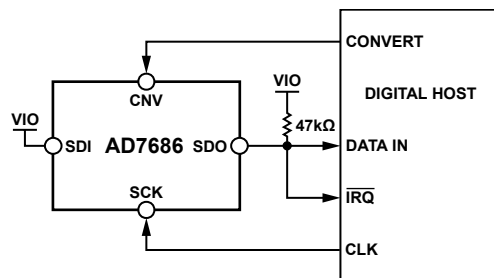
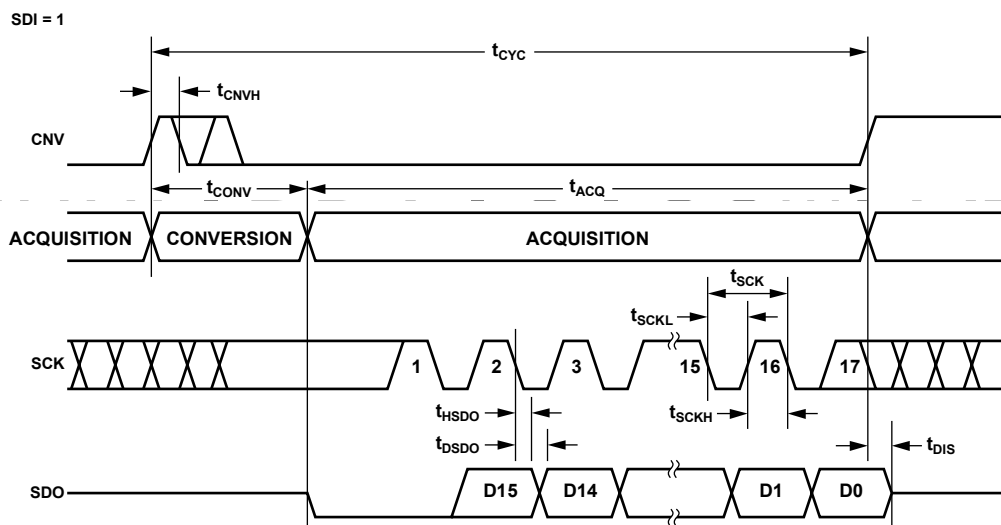
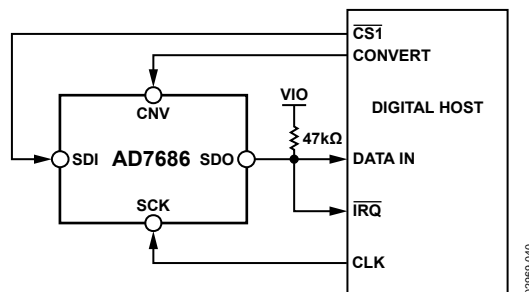
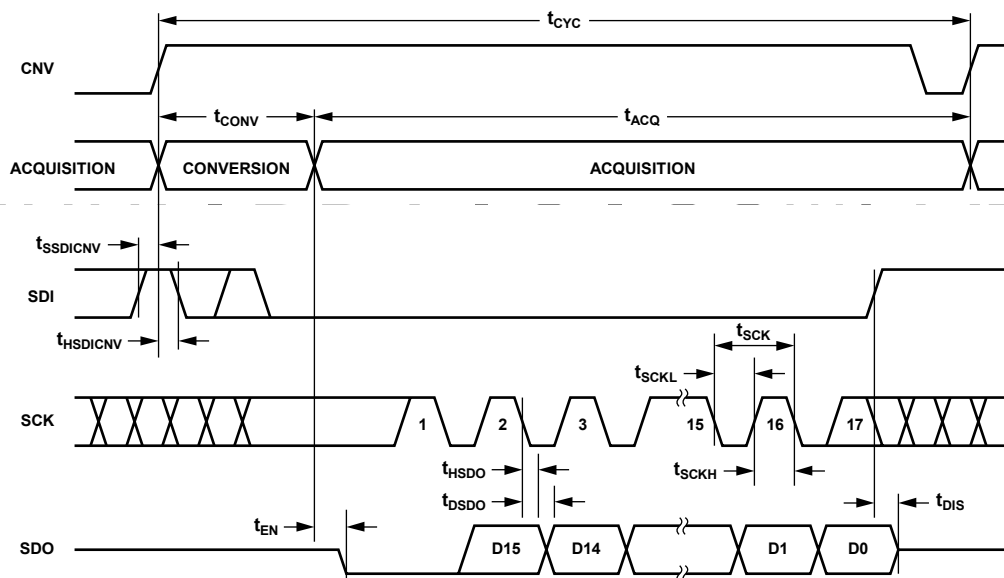

Figure 35. $\overline{\text{CS}}$ Mode 3-Wire with Busy Indicator Connection Diagram (SDI High)
Figure 36. $\overline{\text{CS}}$ Mode 3-Wire with Busy Indicator Serial Interface Timing (SDI High)
Figure 39. \overline{CS} Mode 4-Wire with Busy Indicator Connection Diagram
Figure 40. \overline{CS} Mode 4-Wire with Busy Indicator Serial Interface Timing
- In \overline{CS} mode, if CNV or SDI is low when the ADC conversion ends (see Figure 36 and Figure 40).
This mode is generally used when a single AD7686 is connected to an SPI-compatible digital host having an interrupt input. The connection diagram is shown in Figure 35, and the corresponding timing is provided in Figure 36.
This mode is usually used when a single AD7686 is connected to an SPI-compatible digital host, which has an interrupt input, and when it is desired to keep CNV, which is used to sample the analog input, independent of the signal used to select the data reading. This requirement is particularly important in applications where low jitter on CNV is desired. The connection diagram is shown in Figure 39, and the corresponding timing is provided in Figure 40.